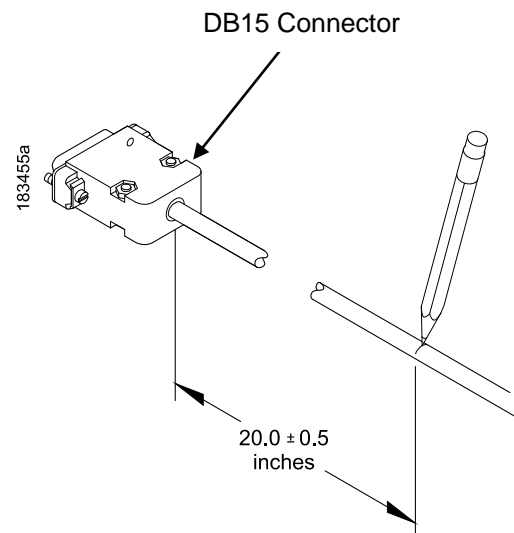

Figure 3 Locating the Ferrite Position on the Power/Data Cable
4. Measure back 20.0 ± 0.5 inches from the DB15 connector and mark the cable with a pencil line. (Figure 3)